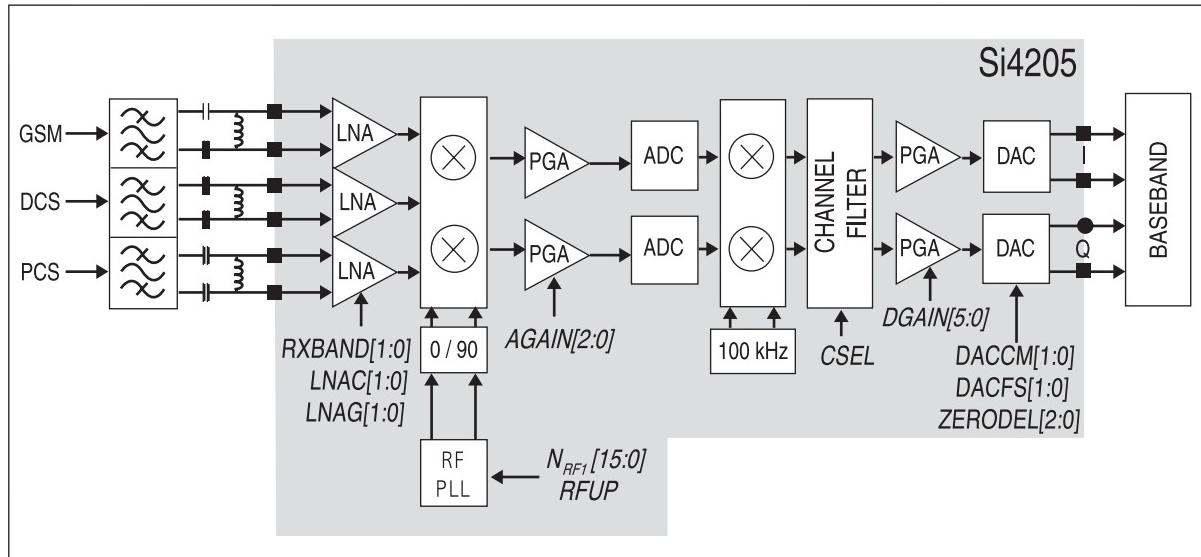

Figure 3-2 SI4205 RECEIVER PART
The LNA inputs are matched to the 150Ω balanced output SAW filters through externallC matching networks. The LNA gain is controlled with the LNAG[1:0] and LNAC[1:0]bits in register 05h (Figure 3-2).
B. Intermediate frequency (IF) and Demodulation
A quadrature image-reject mixer downconverts the RF signal to a 100KHz intermediate frequency (IF) with the RFLO from the frequency synthesizer. The RFLO frequency is between 1737.8 to 1989.9 MHz, and is internally divided by 2 for GSM 850 and E-GSM 900 modes. The mixer output is amplified with an analog programmable gain amplifier (PGA), which is controlled with the AGAIN[2:0] bits in register 05h (Figure 3-2). The quadrature IF signal is digitized with high resolution A/D converters (ADCs).